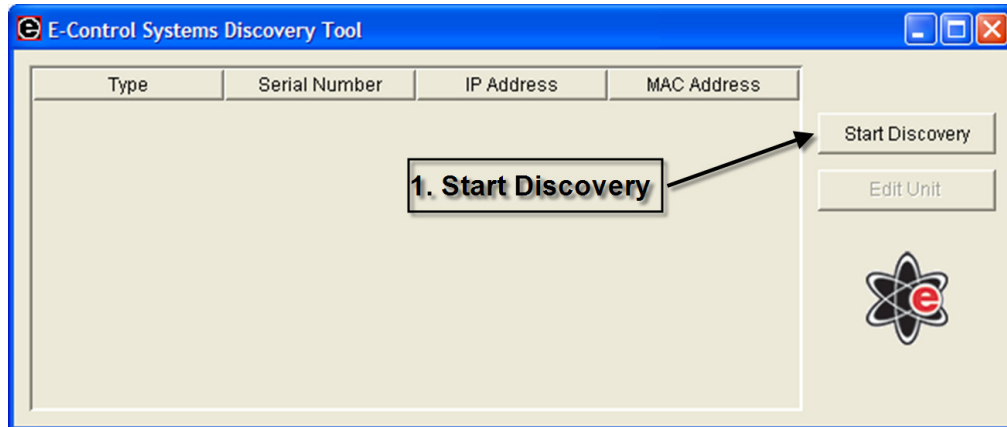

Figure 4
2. Click on Start Discovery (see **Figure 4**, note #1) to start looking for E-Control Systems' units on your network. Note: This could take up to 30 seconds to complete
6. Writing the configuration and restarting the unit can take as long as 2 minutes. In that time you will see DS3 stop flashing. When it starts flashing again you are done configuring the MicroGate™. Note: You can also verify that the MicroGate's configuration changed by clicking on **Start Discovery** (see **Figure 4**, note #1), and verifying that the corresponding value in the IP address column of the MicroGate that was configured changed to the new value.